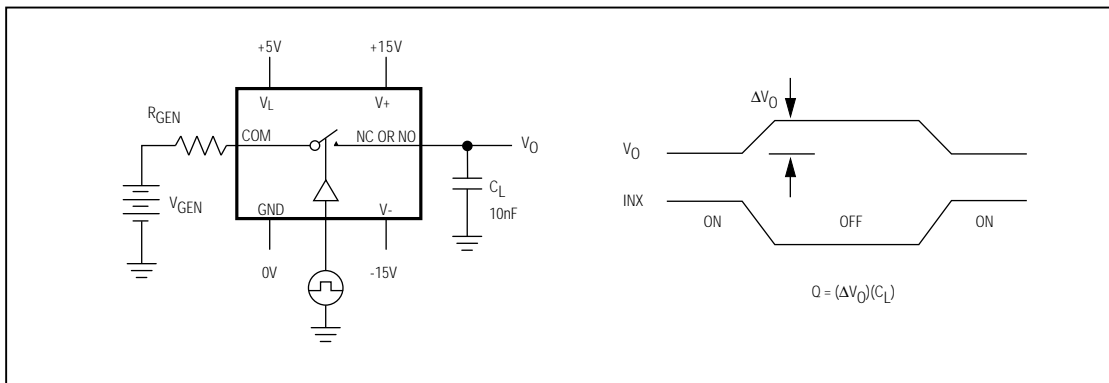

Figure 4. Charge-Injection Test Circuit
**Note 5:** See Figure 4. Off isolation =  $20 \log_{10} V_{COM}/V_{NC}$  or  $V_{NO}$ . VCOM = output, VNC or VNO = input to off switch.